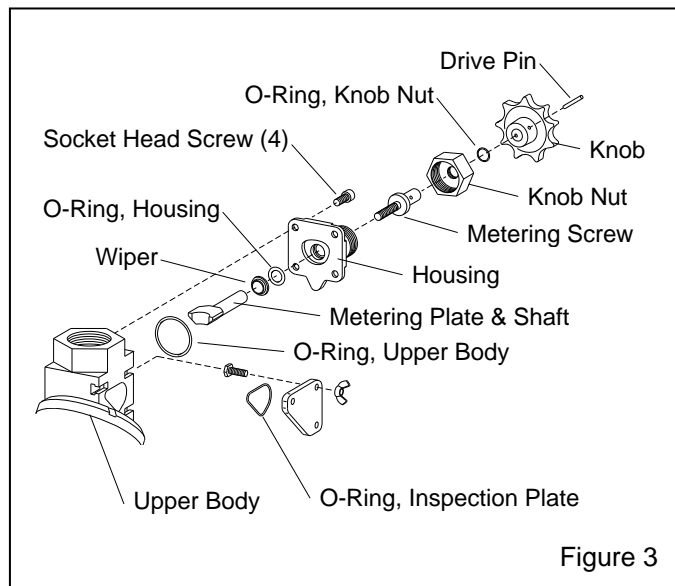

Figure 3
4.1 Metering Assembly, Ref. Figure 3